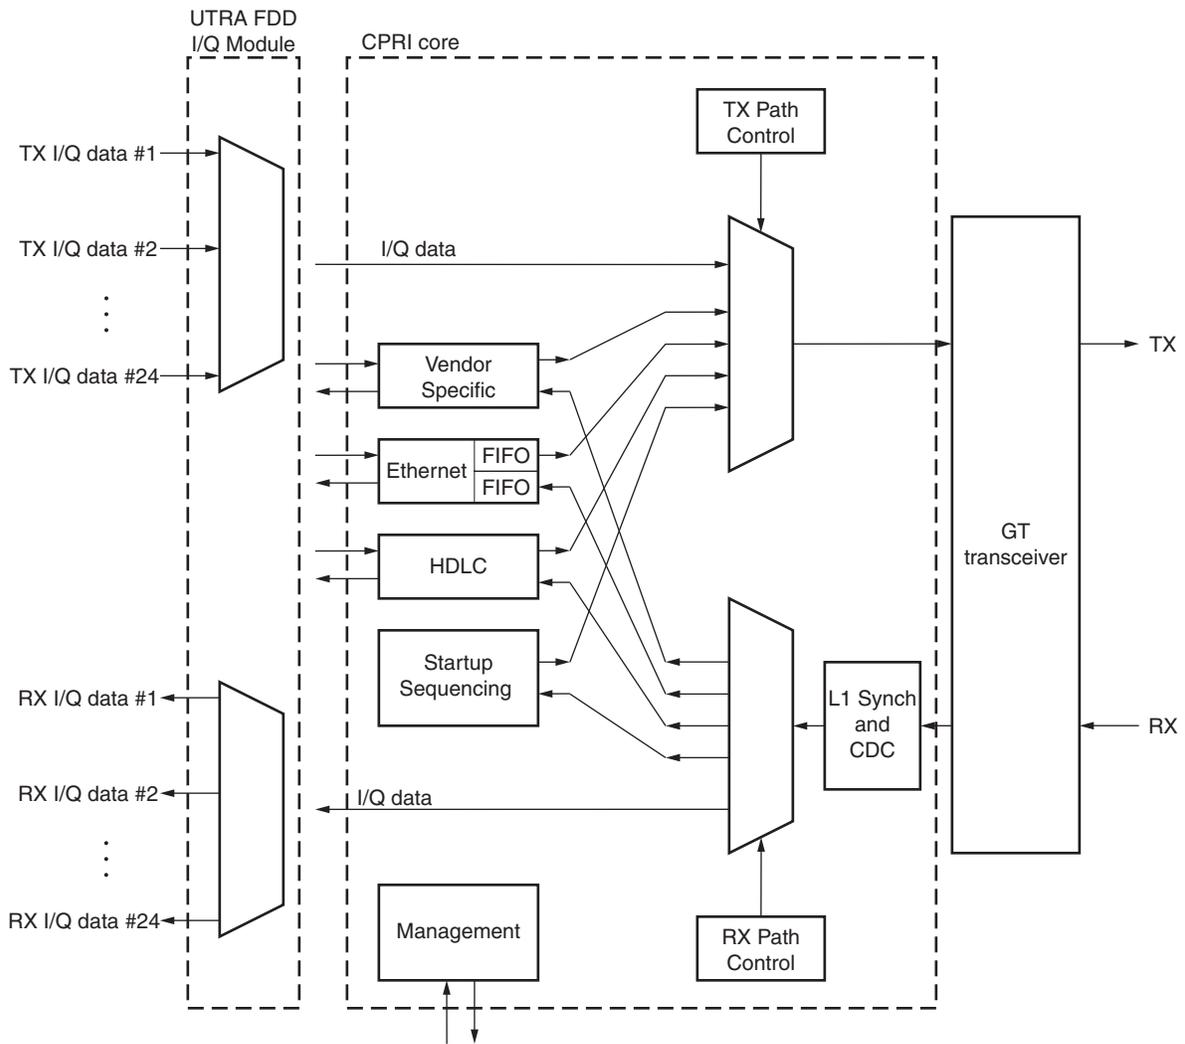

Figure 1: CPRI Top-Level Block Diagram
The architecture of the core is shown in Figure 1. In addition to the interfaces described previously, the core contains the following blocks:
- **UMTS Terrestrial Radio Access - Frequency Division Duplexing (UTRA FDD) I/Q Module:** A pluggable I/Q module to support multiplexing and demultiplexing of I/Q samples in UTRA FDD systems (shown in Figure 1).
- **Legacy raw I/Q Module:** A pluggable I/Q Module for backward compatibility with the raw interfacing timing for v1.x CPRI cores (not shown in Figure 1).